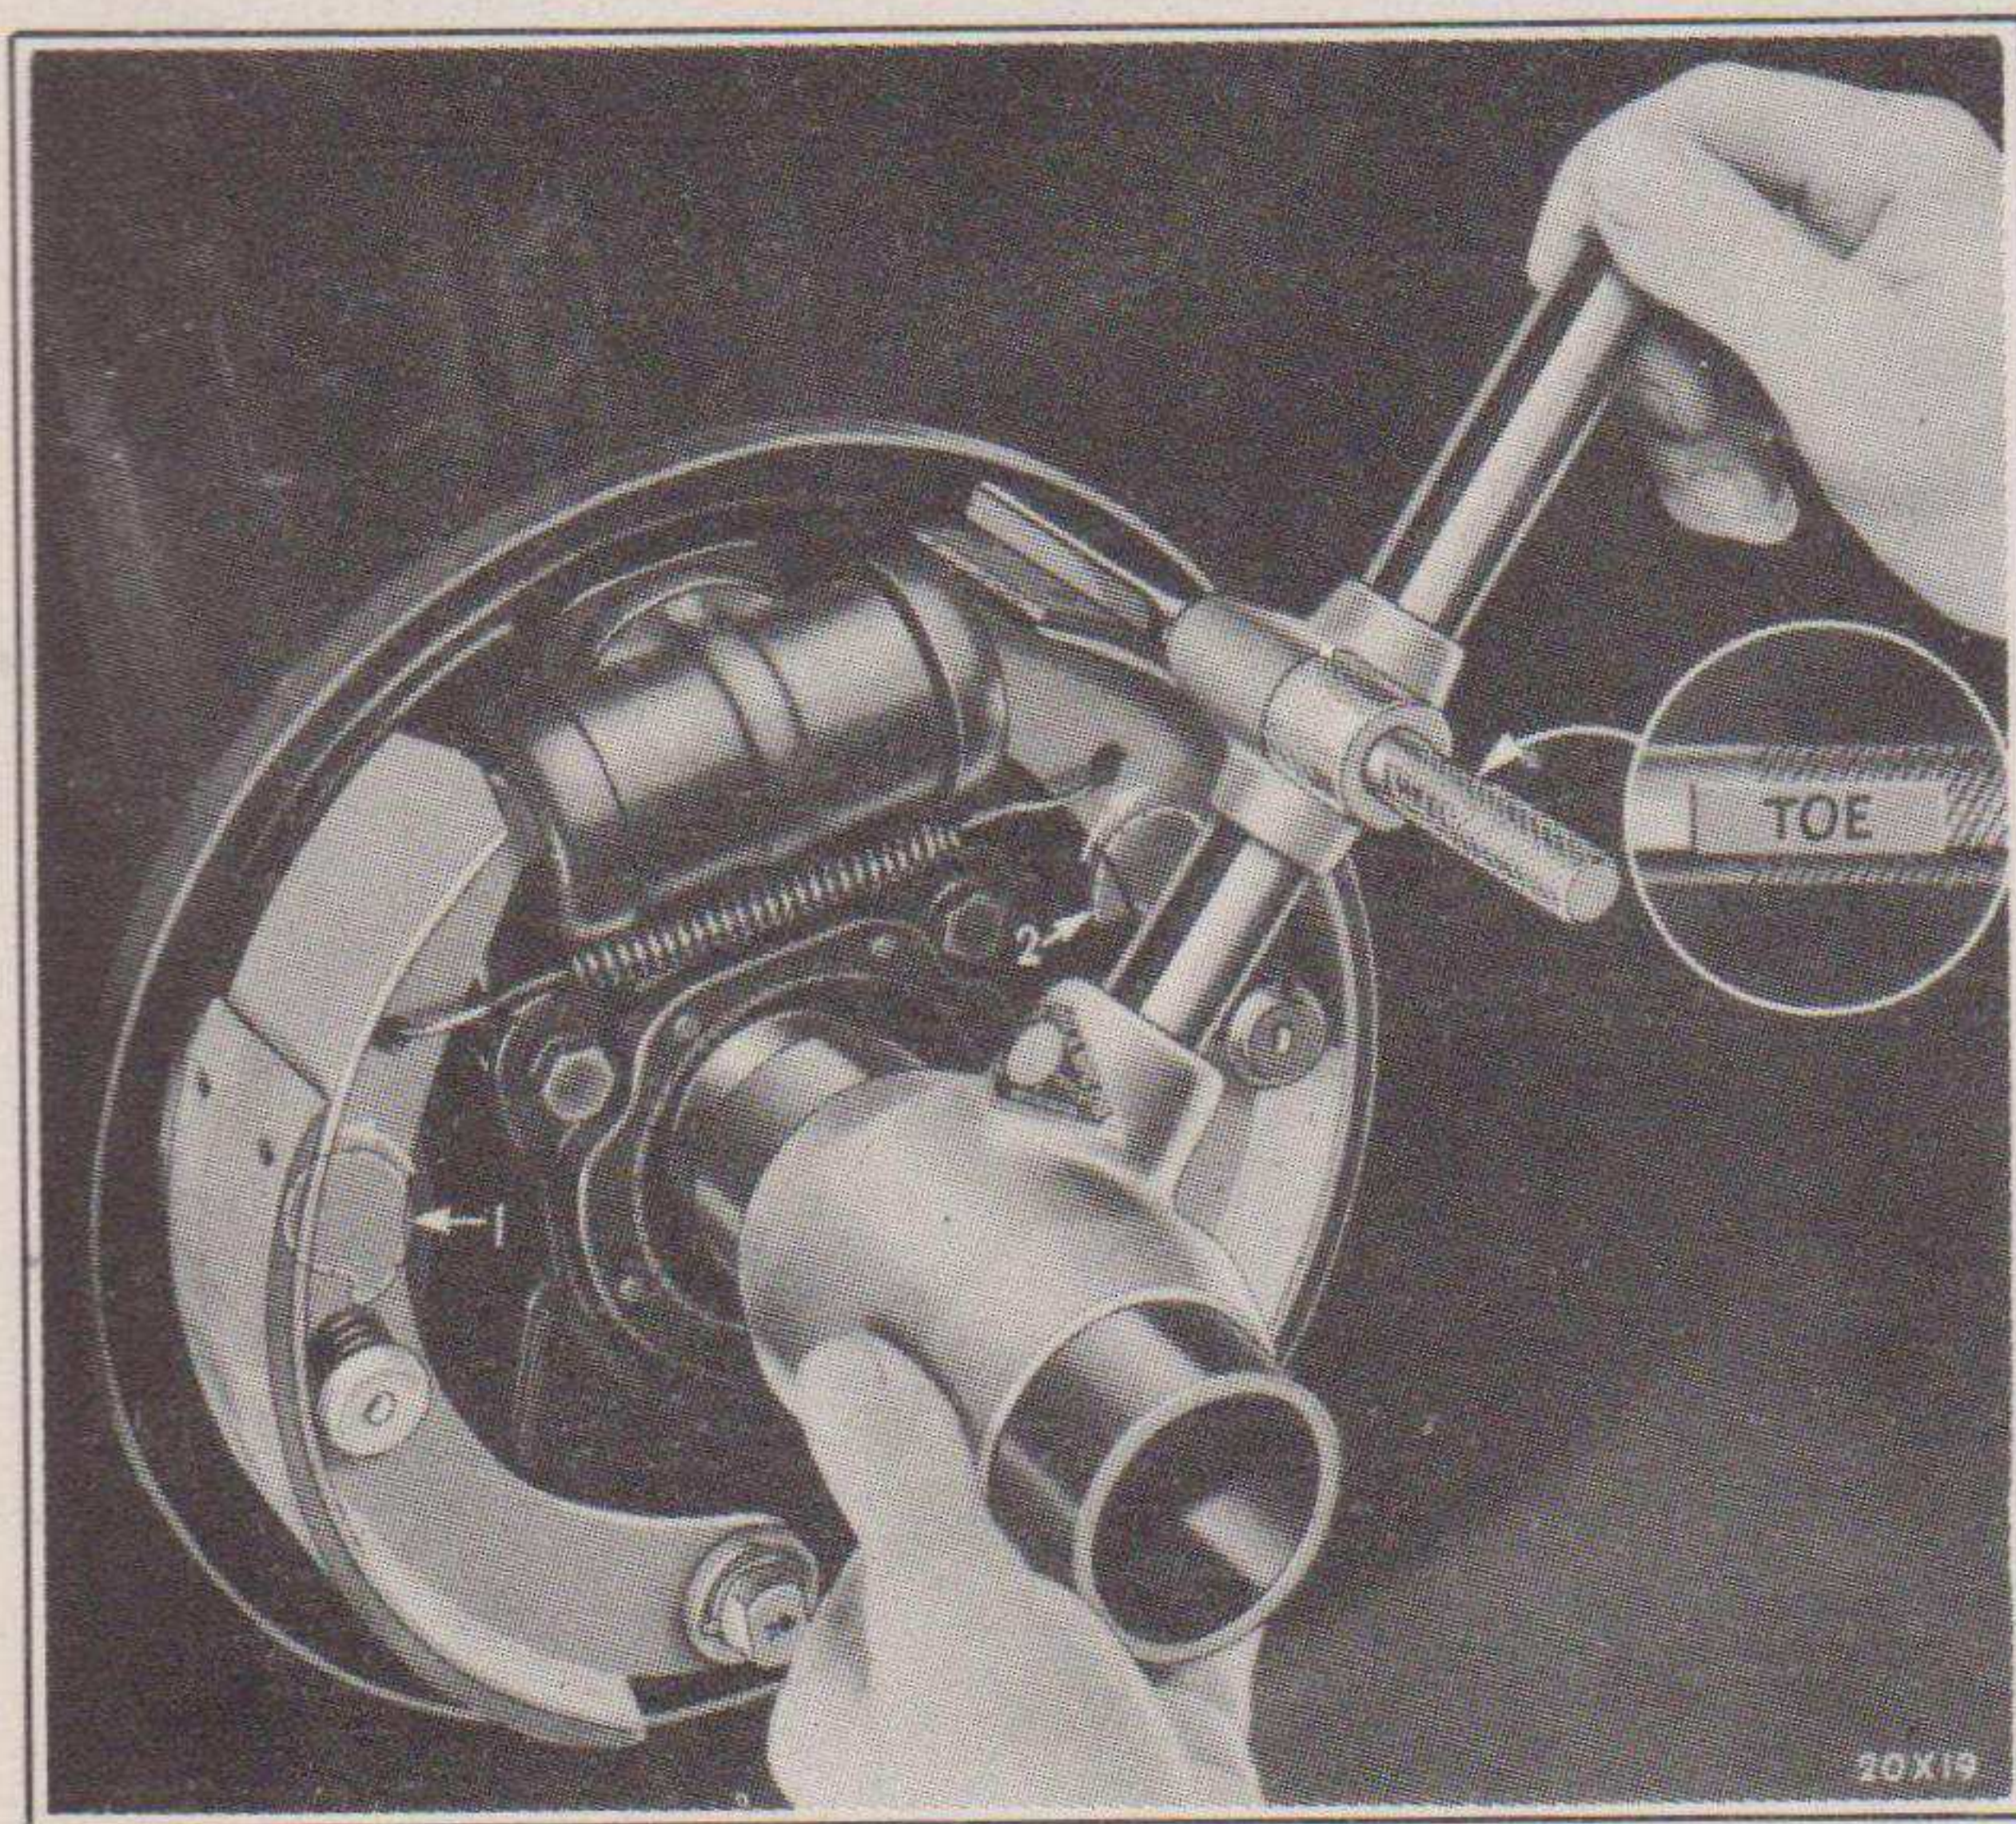

Fig. 74—Checking Brake Shoe Toe Adjustment
- (g) Place the gauge on the point marked "toe" and check the clearance between the lining and drum at the "toe" of the brake shoe as illustrated in Fig. 74. Turn the "toe" adjusting cam until the lining at the "toe" of the brake shoe just contacts the gauge arbor. The "toe" of the shoe is then properly adjusted and will have .012" clearance between the lining and the drum. The pointed edges of the brake gauge (three pointed arbor) are the gauging edges. The "toe" edge of the gauge is machined for .012" clearance.